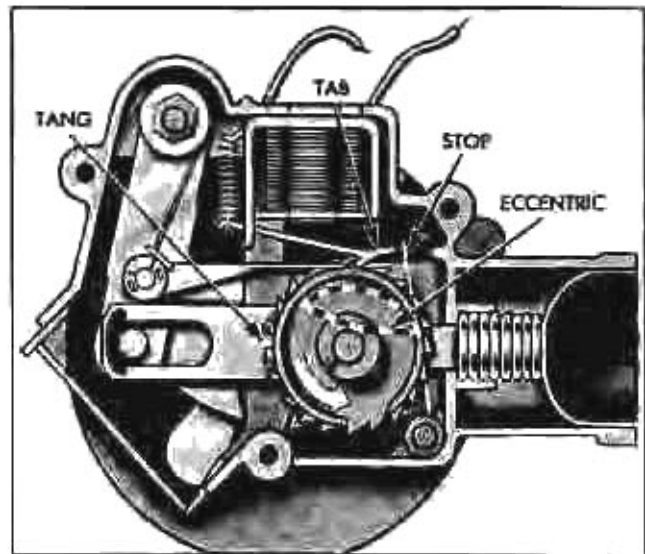

Fig. 11-115 Pump Stop
1. Connect 12 volt supply to one washer terminal and ground the other. Manually rotate the rotor cam and observe if relay armature pulls in (Fig. 11-115). Failure of relay to pull in indicates an open relay coil or poor solder connections.
2. If pump is in idling position, release it as follows: Push relay armature toward relay coil so that wire stop spring engages it (Fig. 11-115) then manually rotate nylon rotor cam until pumping action can be felt. The bellows should now extend partially out of the housing.